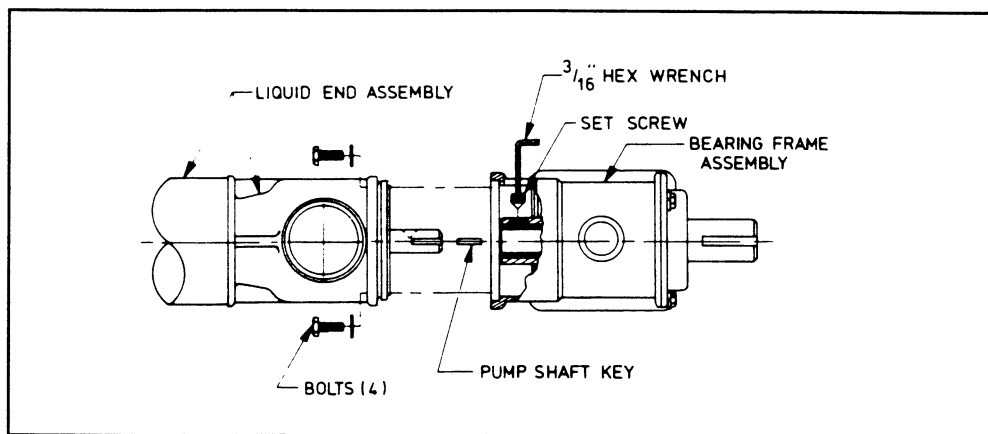
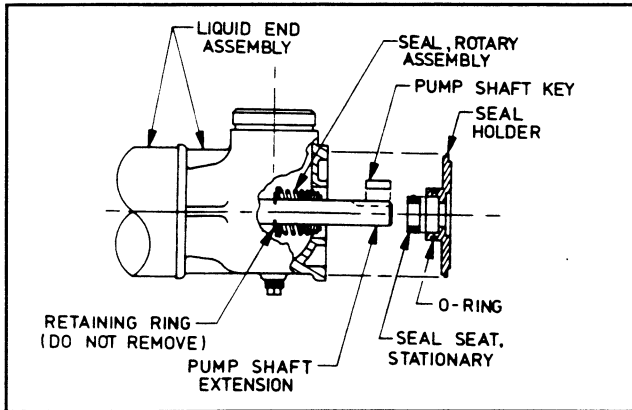

FIGURE 8 - SEPARATION OF LIQUID END FROM BEARING FRAME
FIGURE 9 - REMOVAL OF MECHANICAL SEAL
1. Remove four 3/8-inch bolts and lock washers connecting the liquid end assembly to the bearing frame as shown in Figure 8.
2. Insert a 3/16-inch Allen (hex) wrench in one of the access holes on either side of the bearing frame toward the liquid end. Refer to Figure 8 for more detail. Rotate the pump shaft until the Allen wrench slips into the set screw. Rotate the shaft by rotating the flexible coupling.
4. Fasten together the inlet casting, mechanical seal holder, and bearing frame assembly with the four 3/8-inch bolts and lock washers. Reference Figure 8 (liquid end) and Figure 9 (mechanical seal) for correct placement of parts.
2. Remove the pump shaft key and slide the mechanical seal holder off the pump shaft (see Figure 9).
slides off the pump shaft. If prying is required, do not damage the pump shaft or inlet housing where the seal holder seals (see Figure 9).
6. Remove the stationary portion of the old mechanical seal from the cavity in the seal holder (see Figure 9).
4. Reinstall the tanged flat washer, lock washer and nut. Hand tighten the lock nut and lightly set a tang on the lock washer into a slot on the lock nut. If desired, a 3/8-16 NC x 3 bolt may be inserted through a side port in the bearing frame and into the set screw hole in the end of the bearing frame shaft (see Figure 8) when tightening the lock nut.